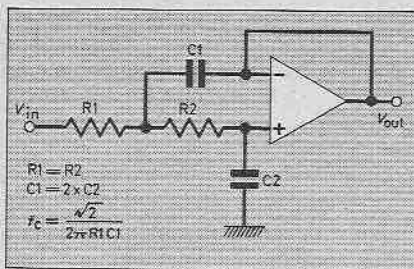

Fig. 10.10. A low pass active filter using an op-amp. This has unity gain until the cut-off frequency f_c is approached.
Figs. 10.10 and 10.11 show op-amp circuits for low pass and high pass filters respectively with the equations for the cut-off frequency, this being the frequency at which the output amplitude is half the input amplitude.
10.4. What is the cut-off frequency of Fig. 10.10 when $C_1 = 940pF$, $C_2 = 470pF$, $R_1 = R_2 = 24k\Omega$: